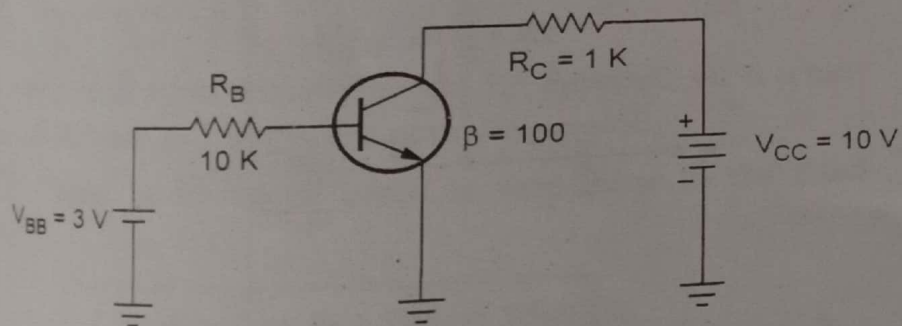

Fig. Q.48.1
Q.48 Determine whether or not the transistor in Fig. Q.48.1 is in saturation. Assume $V_{CE(\text{Sat})} = 0.2 \text{ V}$.